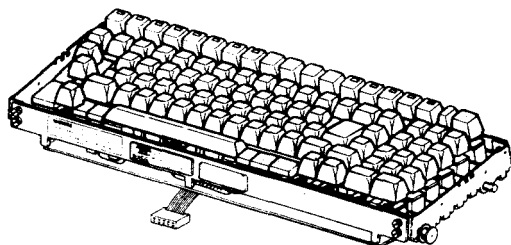

Fig. 1—43K202/GAB Operator Console
1.01 This part provides disassembly/reassembly procedures for the 43 Buffered Operator Console (opcon) (Fig. 1).